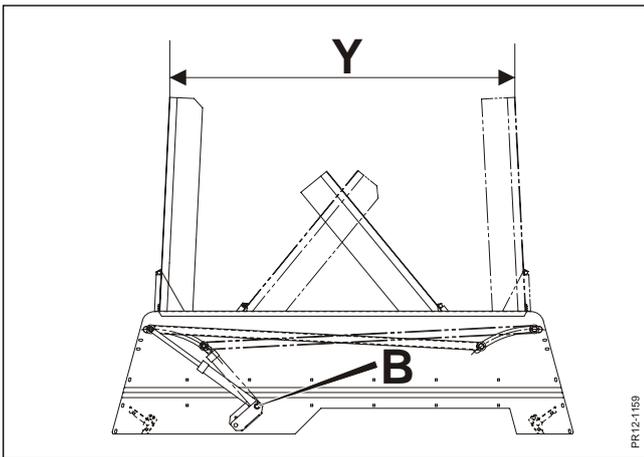

Fig. 3-23
Fig. 3-23 Pos. **A** is standard position where the swath guards are moved in full and the distance **x** between the guards is at a maximum. The cylinder can be moved to pos. **B** which results in a reduced movement of the swath guards and the distance **Y** between the guards is minimised. In this position you obtain a narrower asymmetric double swath where the two single swaths are also narrower.
**WARNING:** When working in heavy and wet crop, the standard position is preferable as the angle of the swath guards as shown in fig. 3-23 may prevent an unproblematic flow of the crop.